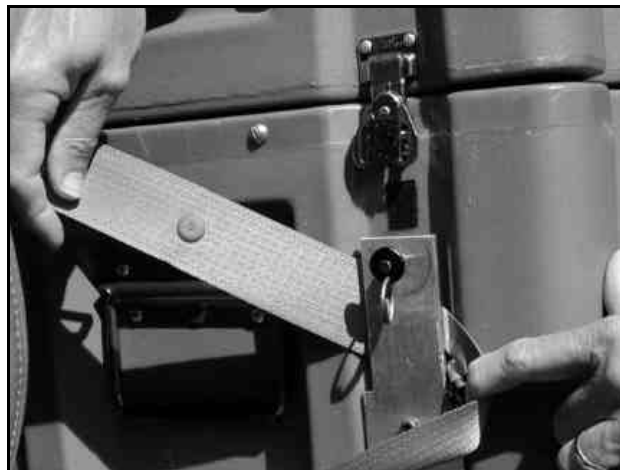

Figure 3.5 Replacing the Safety Pin
- 4 Replace the safety pin in the seatbelt retention loop, as shown in Figure 3.5.